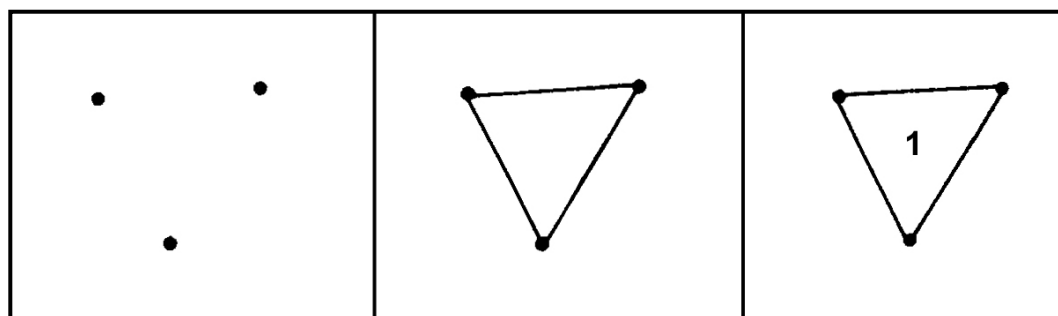
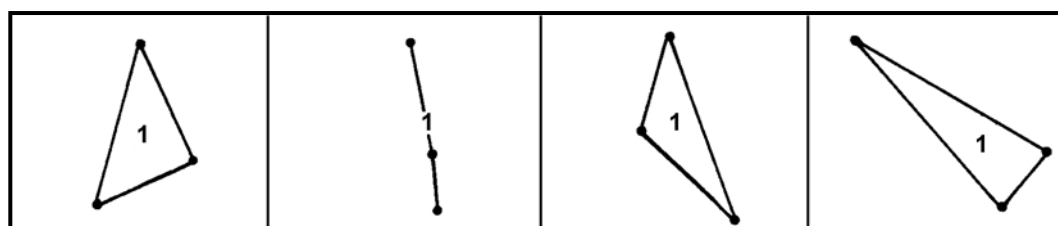

Figure 5-3. Shot-group marking.
Figure 5-4. Central point of an odd-shaped group.
c. **Shot-Group Marking.** The instructor-trainer must understand how to analyze shot groups correctly. If the soldier is to benefit from this exercise and if the instructor-trainer (or coach) is to provide useful guidance, the soldier must mark each shot group for a clear record of his firing practice (Figure 5-3). He connects the three bullet holes on his target with a straight line and places a number inside the shot group. The number represents the center of the three shots. When two shots are near one end of the group and the third shot is toward the other end, the number is placed closer to the two near shots (Figure 5-4). This is not a precise marking that requires a measurement but a procedure to help shot-group analysis. The three-round shot group allows the firer's performance to be evaluated. While some of the variation in a single shot group is due to the rifle and ammunition.